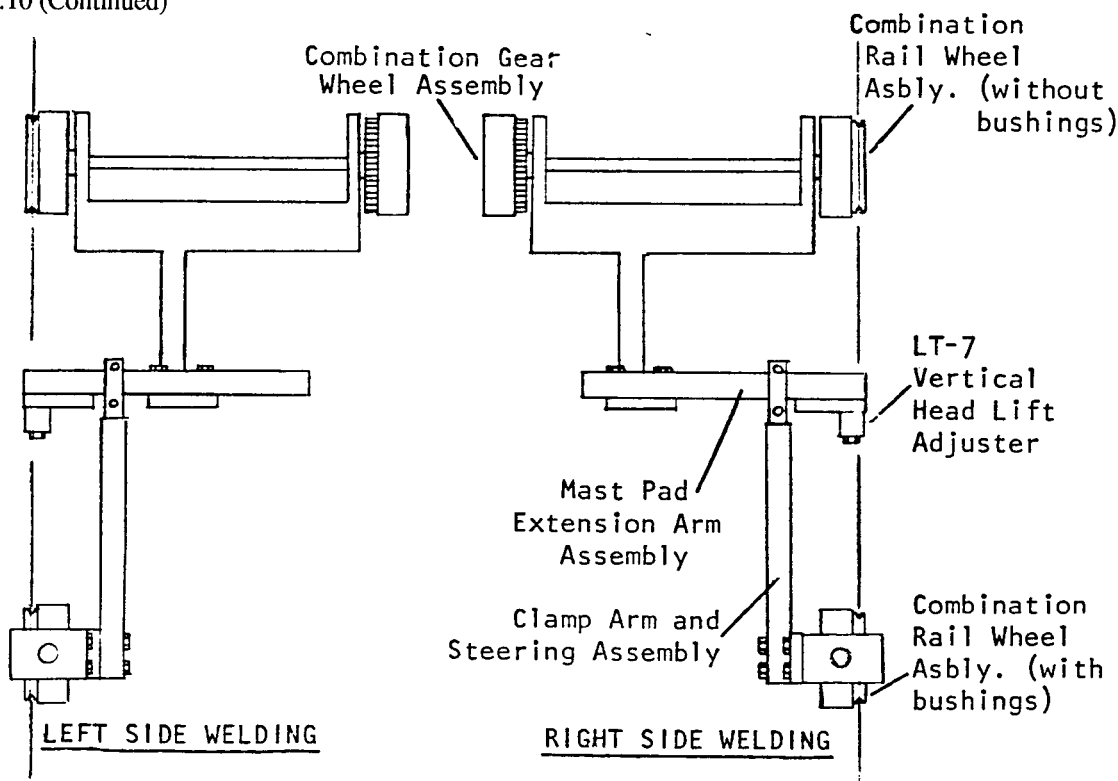

Figure 1
The K395 LT-7 is shipped set up for right side welding as per Figure 1. If left side welding is desired, or for left or right conversion, proceed per the following instructions:
- a. Rear Wheel Configuration (refer to Figure 1)
- b. Front Frame Configuration (refer to Figure 1)